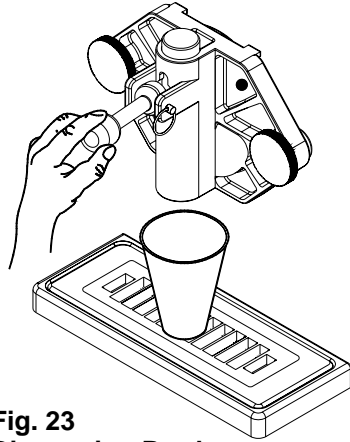

Fig. 23
2. Using approximately 20 oz. of product mix, chase the sanitizing solution from the mix pan by pouring behind any remaining solution which will then drain through the machine. Doing so will make certain that sanitizing solution will not remain in the machine to freeze or be served to the customer. Open the spigot plunger (Fig. 23) and then dispense enough of the liquid to purge the system of sanitizing solution.